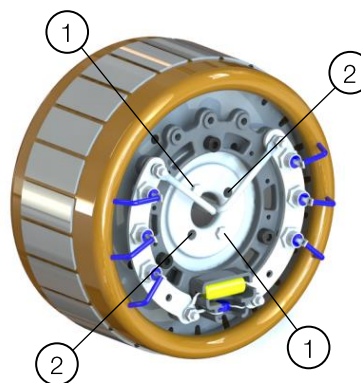

Figure 14.22: Fastening and holes to withdraw the exciter rotor
- Remove the exciter rotor. Use the fixing screws to withdraw the exciter rotor, through the holes indicated in Figure 14.22, and withdraw the current exciter rotor bushing.
Key of Figure 14.22: